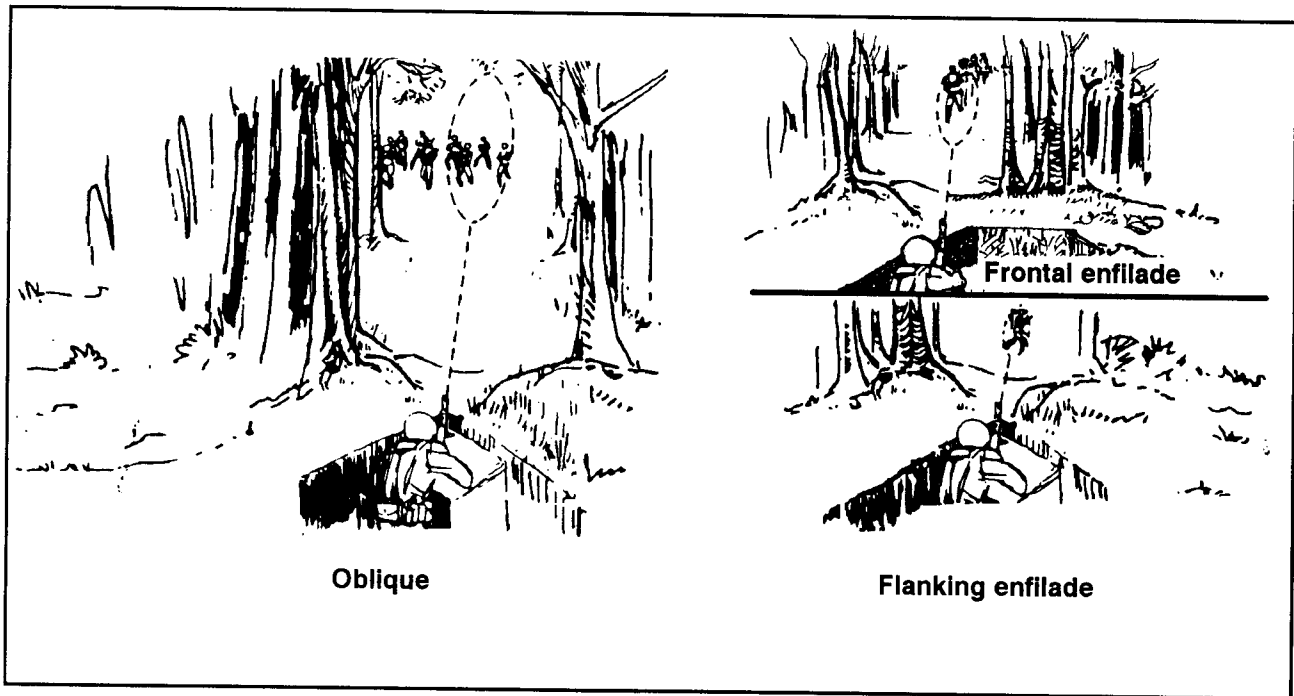

Figure 6-5. Oblique fire and enfilade fire.
(3) *Oblique fire*. This is when the long axis of the beaten zone is at an angle other than a right angle to the front of the target (Figure 6-5, page 6-4).
(4) *Enfilade fire*. This is when the long axis of the beaten zone coincides or nearly coincides with the long axis of the target. This type of fire is either frontal or flanking. It is the most desirable type of fire with respect to a target, because it makes maximum use of the beaten zone (Figure 6-5).